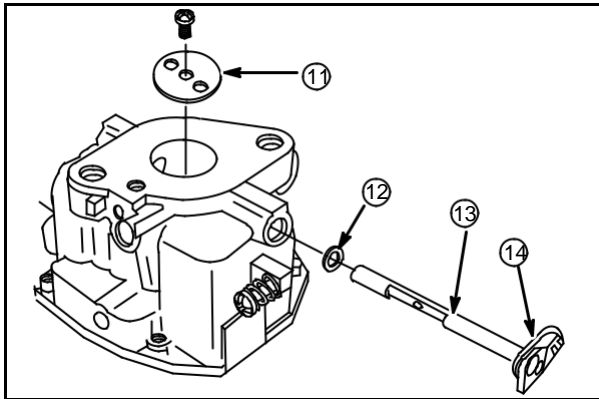

Fig. 82
The top and bottom edges of the throttle plate are beveled. Mark throttle plate (11), **Fig. 82** before removal to ensure reinstallation in the original position.